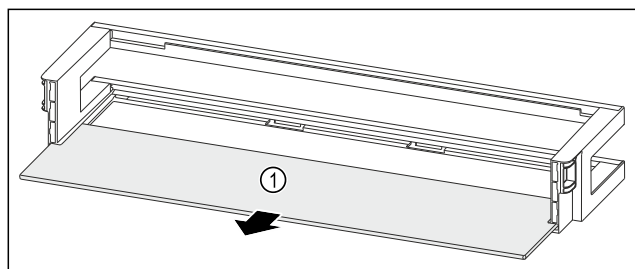

Fig. 87 Door rack with shelf
- ▶ Remove the shelf Fig. 87 (1).